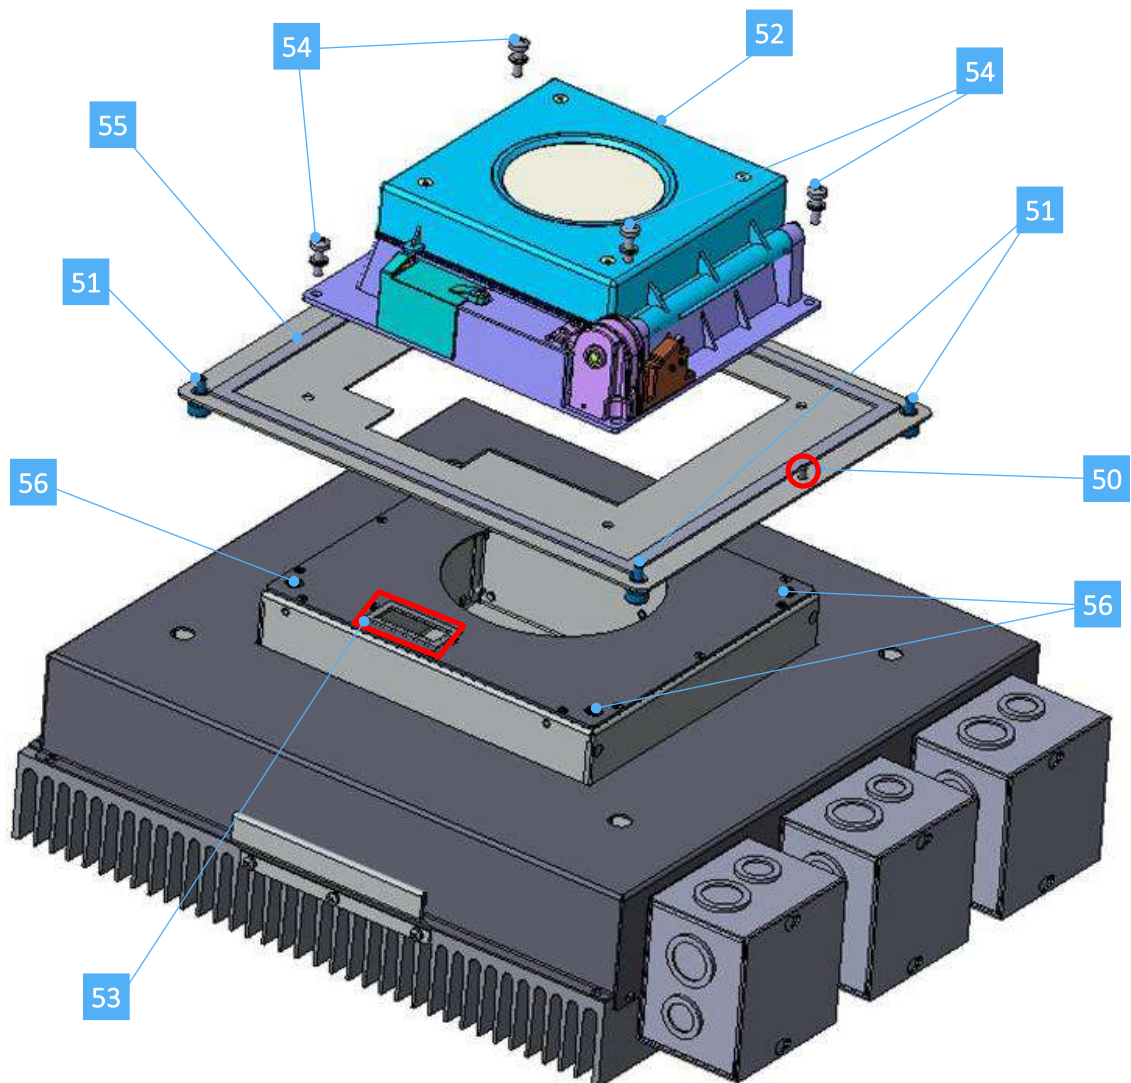

Fig. 43 Installation sequence - Step 14B, OPTION 2
- D. Insert the external power supply cables into the cable gland and fasten them to the terminal board inside the junction box (Figure 43).